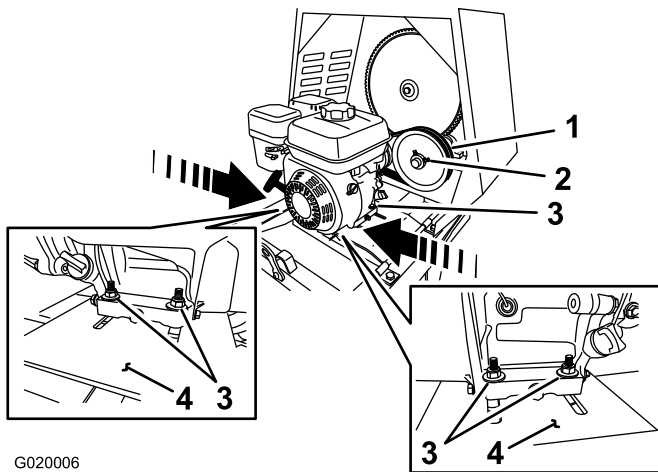

Figure 70
- B. Loosen the nuts and bolts that secure the engine to the engine deck (Figure 70).
- **Increase the air gap**—move the engine **away** from the idler pulley (Figure 70).
- **Decrease the air gap**—move the engine **toward** the idler pulley (Figure 70).